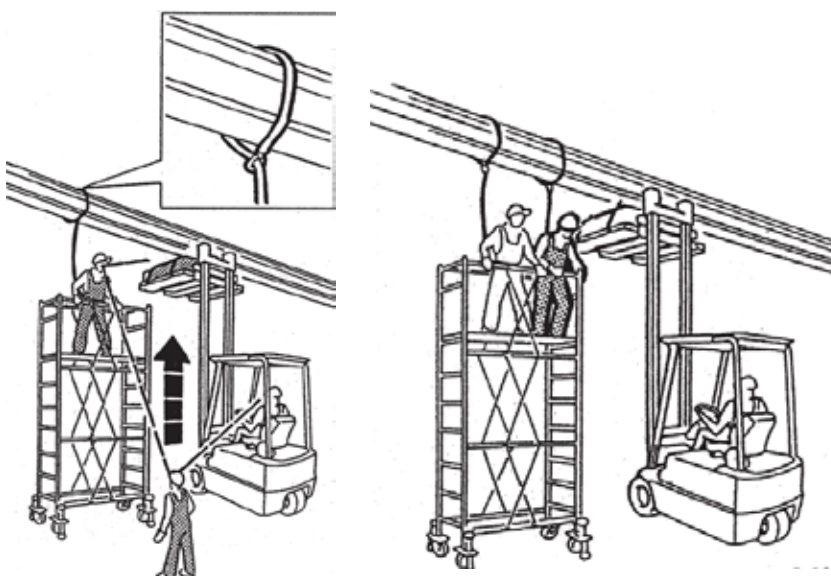

fig.133
- At this point, one of the two installers climbs onto the mobile scaffolding and secures himself to a stable point with the safety line, NOT TO THE MOBILE SCAFFOLDING. The other operator stays in contact with the installer on the scaffold and directs the forklift driver during the approach. (fig.133)
- Once positioning is complete, the second installer climbs onto the scaffolding and secures themselves to a stable point, NOT TO THE SCAFFOLDING. (fig.133)